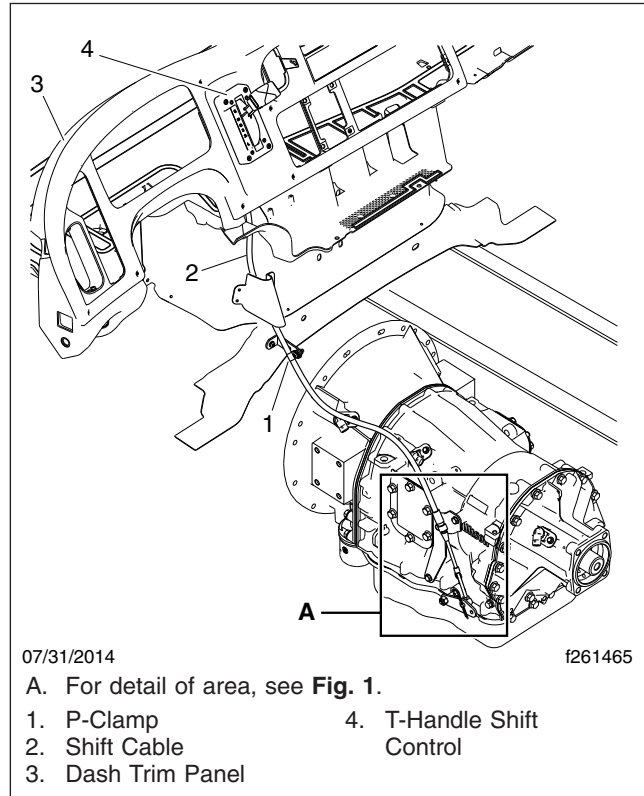

Fig. 2, Existing Shift Cable Installation
4. Remove the P-clamp that attaches the shift cable to the underside of the cab floor near the pass-through into the cabin. See Fig. 2, item 1.